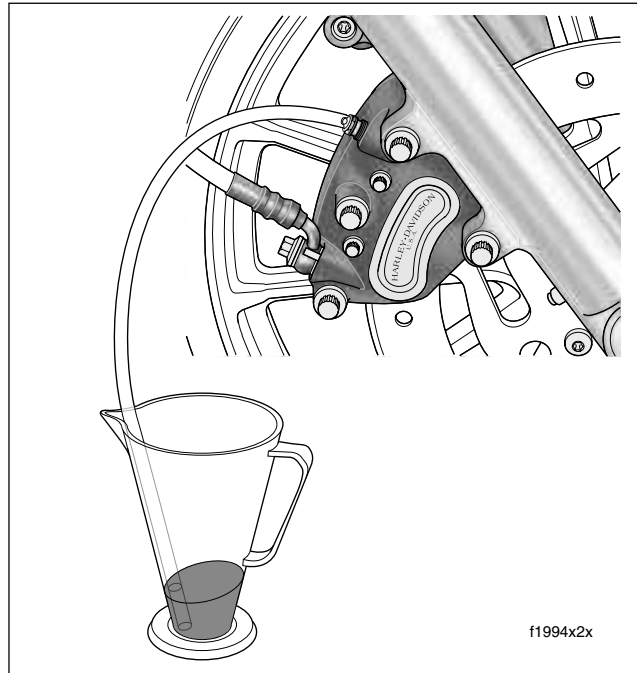

Figure 2-72. Bleeding Hydraulic System
1. Install end of a length of plastic tubing over caliper bleeder valve. Place free end of tube in a clean container. See Figure 2-72. Stand motorcycle upright.